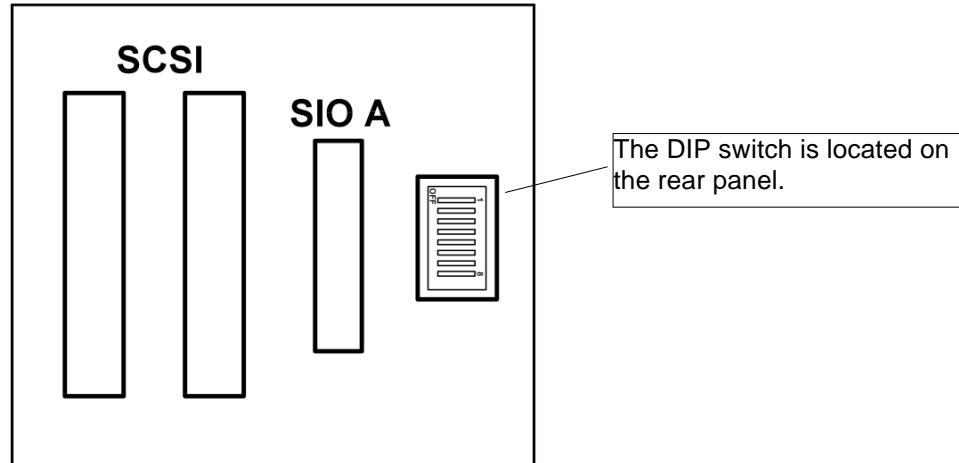

Figure 2-2. SCSI DIP Switch
2. Locate the switch on the rear panel of the V8000 electronics pod. See Figure 2-2.